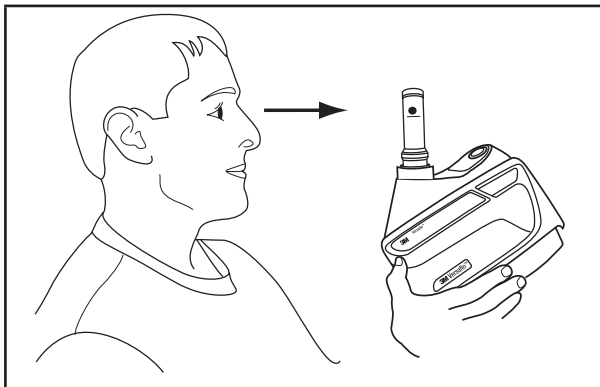

Fig. 16-2 – Checking airflow
- With the airflow indicator in a vertical position, ensure that the bottom of the floating ball rests at, or above, the minimum flow mark for the 'letter' representing your 'Zone' (Fig. 16-2). Airflow indicator must be in the vertical position for an accurate reading.